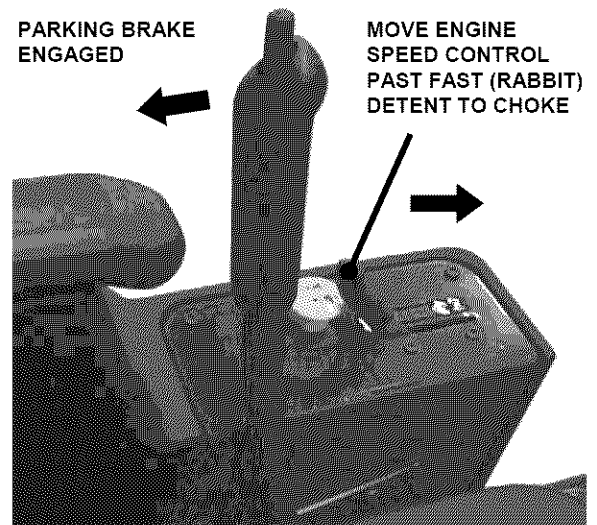

FIGURE 2.6
2. Make certain the blade switch is in the "Off" position. See Figure 2.6.
5. Move engine speed control forward past the "Fast" (Rabbit) detent to the "Choke" position. See Figure 2.6.